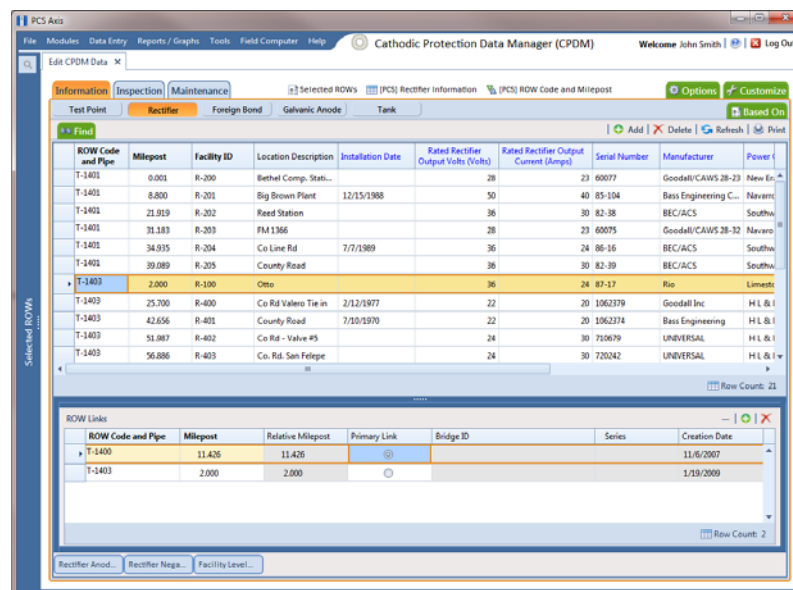

Figure 7-110. ROW Links
- 5 Select a row of records in the *Rectifier Information* grid with the rectifier you want to link to a pipeline segment. For example, the record for pipeline segment *T-1403* is selected in the following figure (Figure 7-110, page 338).
- 6 Click the minimize button  in the upper right-hand corner of the *Facility Level Override* mini-grid to hide the mini-grid. Then double-click the **ROW Links** button  to open the *ROW Links* mini-grid (Figure 7-110).